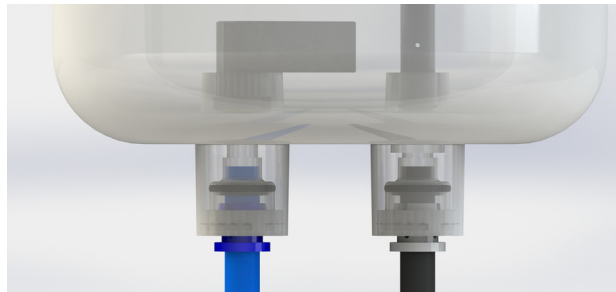

Figure 1
4. Using the new piece of tubing, push the tubing through the handle-using a twisting motion. When the tubing is through the handle, pull in out several inches and press the handpiece insert ③ all the way onto the end of the tubing, until the tubing is flush with the front of the insert.
5. Pull the tubing back into the handle until the collar on the handpiece insert is butted-up to the end of the handle. Pull the tubing through the rubber grommet, blow out tank bottom fitting and re-attach it to the sand tank assembly by pushing it into the quick-release fitting. Visually make sure the tube travels past the black seal looking through the transparent raised area (Fig. 1). Re-assemble the O-ring, tip and nozzle cap to the handle.